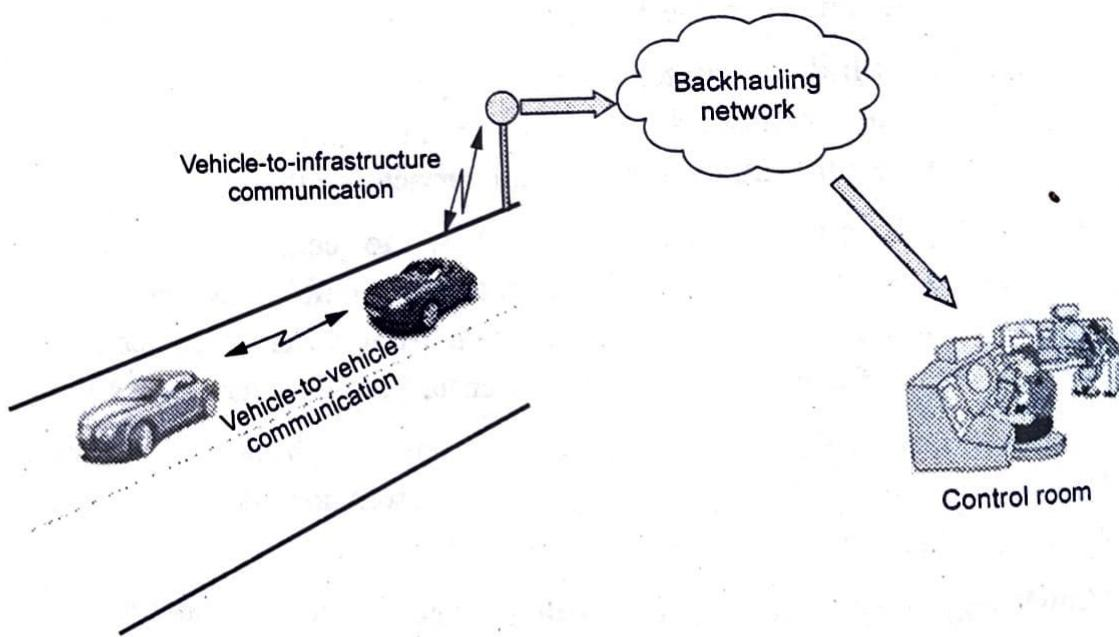

Fig. Q.14.1 V2V communication
- Fig. Q.14.1 shows V2V communication.